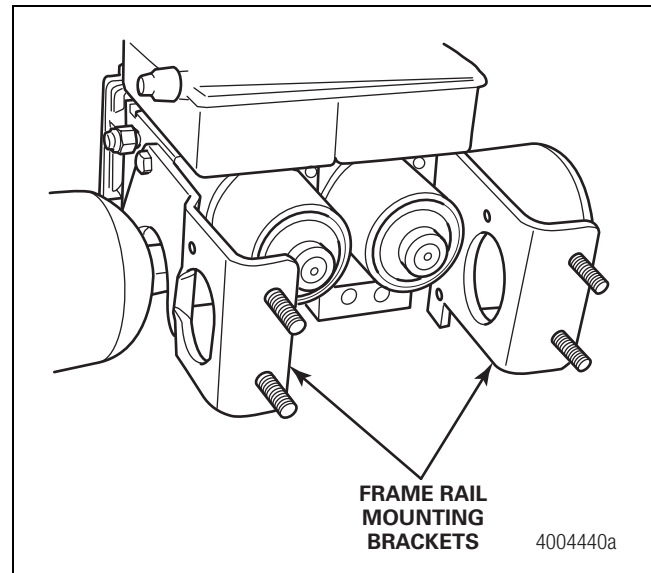

Figure 7
3. While supporting the HCU, loosen and remove the four nuts (two per side) that hold the HCU mounting brackets to the frame rail of the vehicle. Remove the HCU, with mounting brackets attached, from the vehicle. Figure 7.